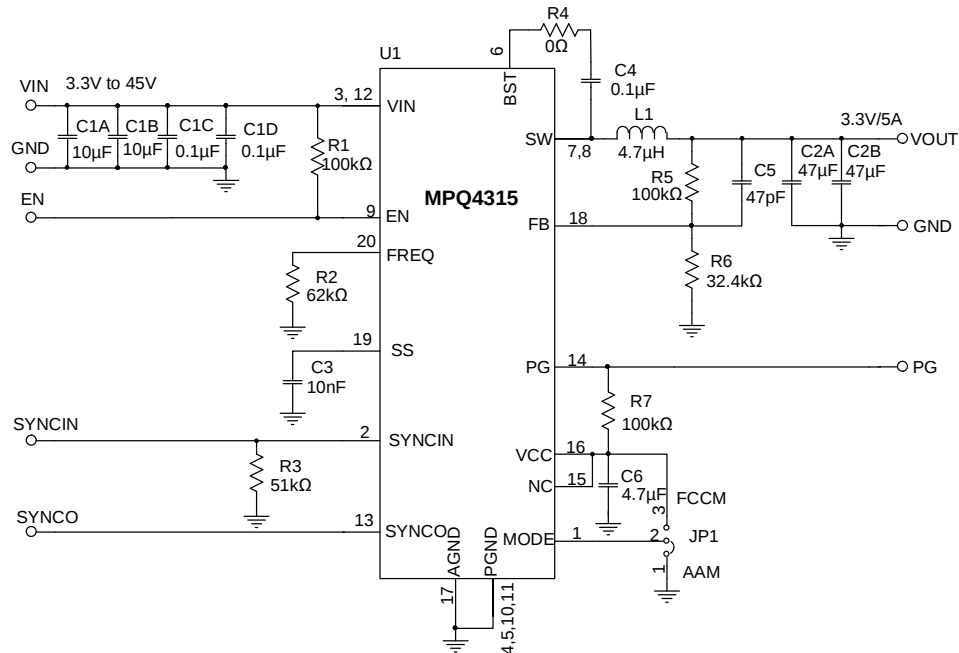

Figure 11: Typical Application Circuit ($V_{OUT} = 3.3V$, $f_{SW} = 470kHz$)
- 9) The recommended PCB layout is based on Figure 11.